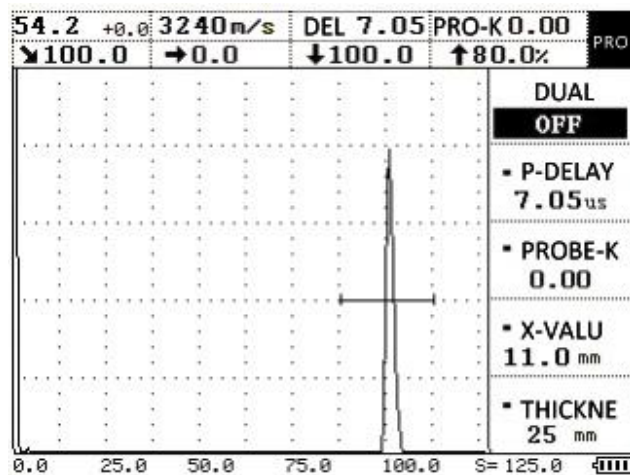

Figure 4-6
4. Calibrate the probe zero: put the probe on the test block and move it till the reflection echo of the hollows of R100mm reaches its highest level. The sound path value will be displayed at the top left corner on the screen, if the value isn't 100mm, press **PROBE** to enter the probe menu, press  (up) or  (down) to select the probe zero submenu, then press  (left) or  (right) to set the value as 100mm. or direct press **PEAK MEM** to calibrate the probe zero automatically. As shown in Figure 4-6, the probe zero calibration is finished.